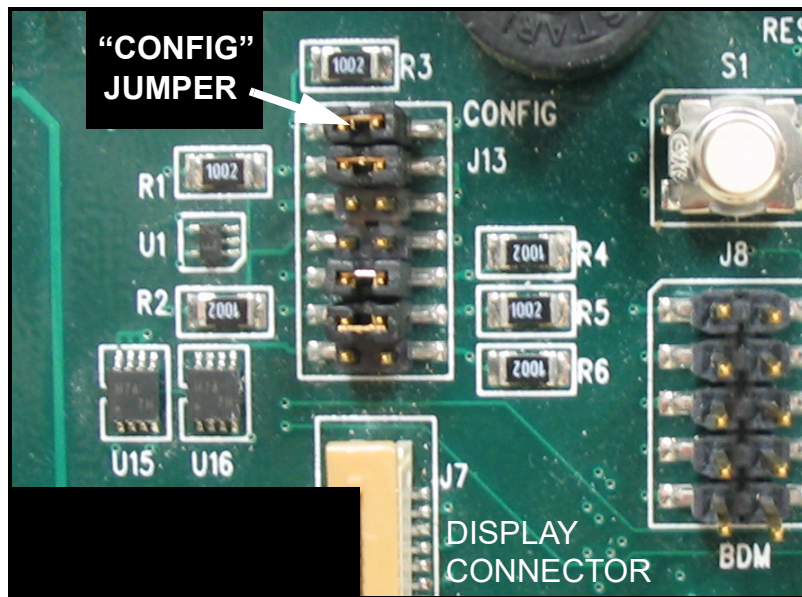

Figure 11: J13 Header Connector
2. Open the enclosure, remove the main aluminum shroud and locate the J13 header connector (above the display connector) on the main board (see Figure 11 below).
2. Open the enclosure, remove the main aluminum shroud and locate the J13 header connector (above the display connector) on the main board (see Figure 11 on page 12).